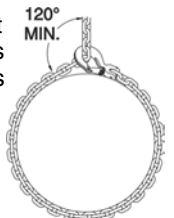

Figure 1
- When using chain slings in choker applications, the Working Load Limit must be reduced by 20%. Crosby recommends a minimum angle of choke of 120 degrees (see Figure 1). Consult the manufacturer when planning to use an angle of choke less than 120 degrees. If Crosby A-1338 Cradle Grab hooks are used at the minimum angle of choke of 120 degrees, the full sling rated WLL can be utilized.